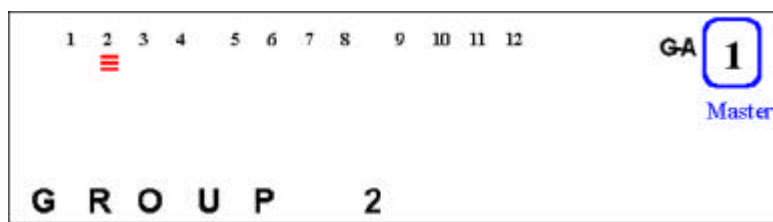
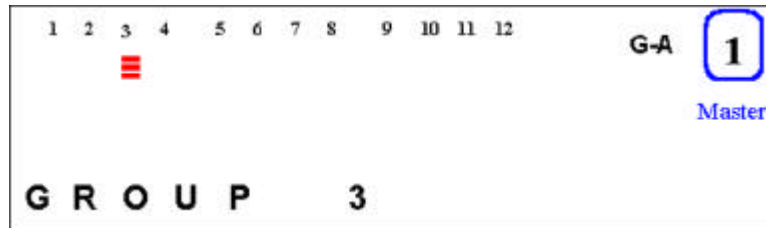

Figure 4.5 Group 2
Figure 4.6 Group 3
- 3) Press <Next> until the group number you wish to monitor is displayed in the Message Zone as shown in Figure 4.5, and Figure 4.6.